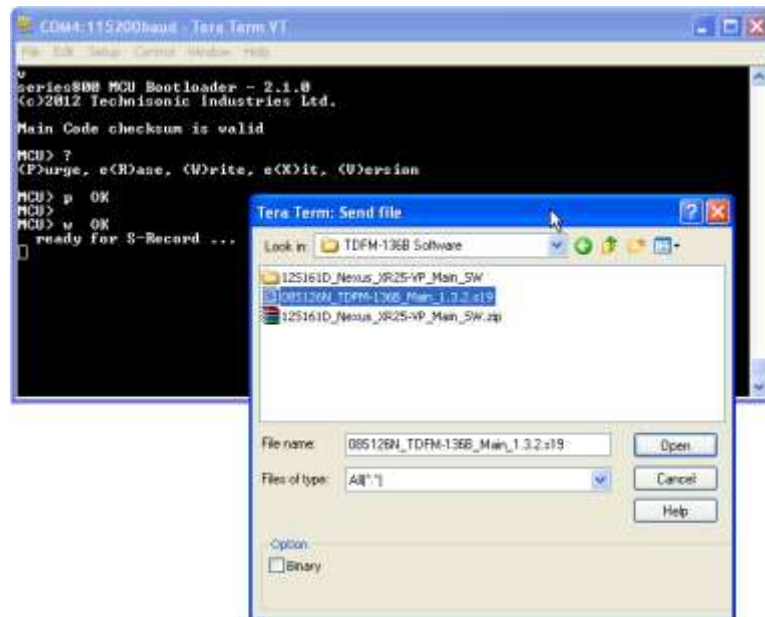

FIGURE 7: Browsing for New Firmware File
- h) On the terminal top bar select “File”, then select “Send File”. The file browse window should pop up. (See Figure 7)